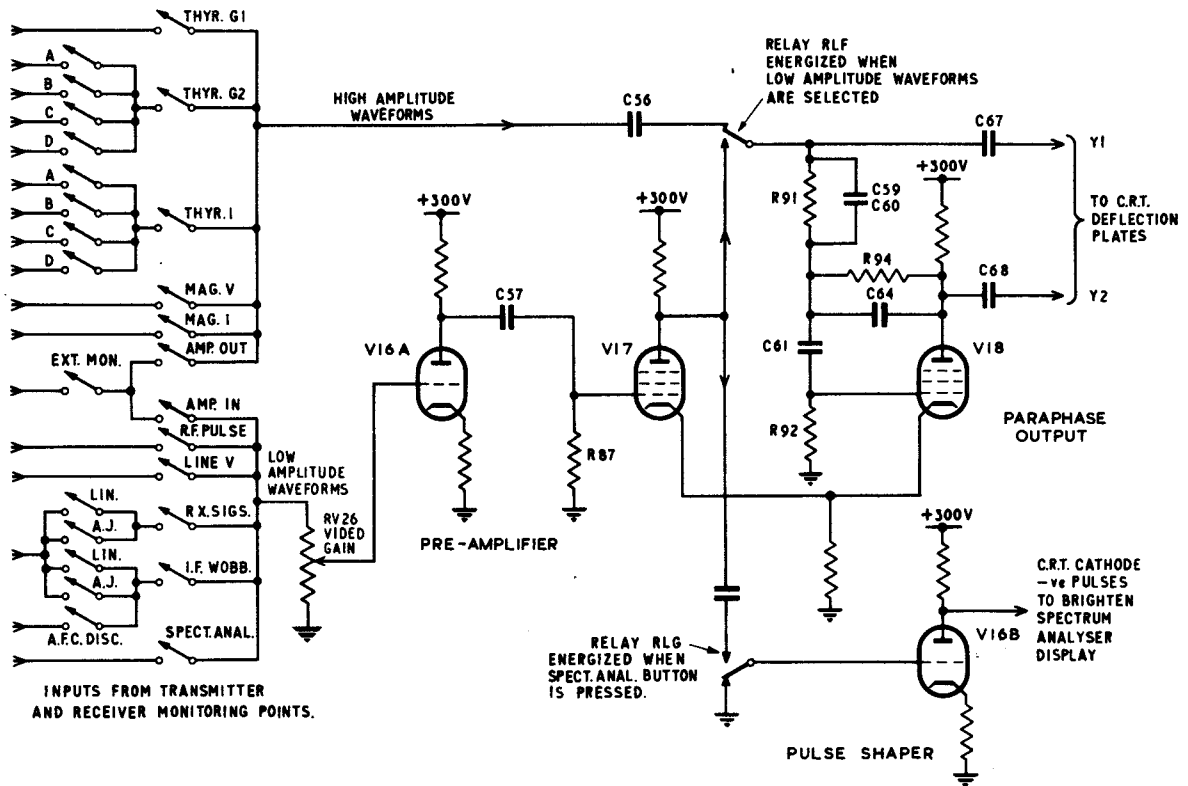

Fig.6. Simplified diagram of video circuits
29. A simplified diagram of the monitor video circuits is given in fig. 6. When a low-amplitude waveform (i.e. receiver signals, i.f. response or spectrum analyzer waveform) is selected for display, the input from the transmitter monitoring point is connected via the VIDEO GAIN potentiometer RV26 to the grid of the video pre-amplifier